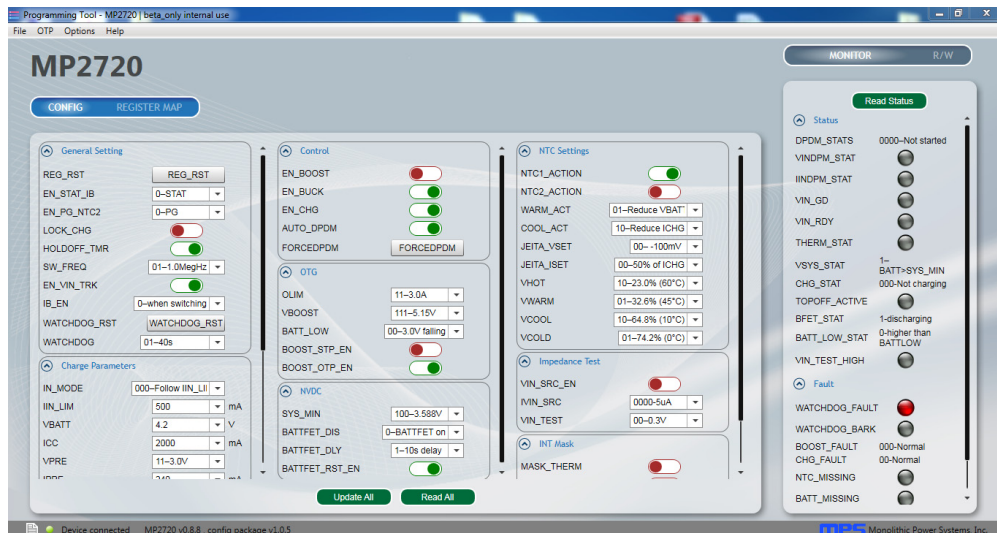

Figure 3: MP2720 Evaluation Software
8. Launch the MP2720 evaluation software. Figure 3 shows the GUI software's main window.
1. Ensure that all the connections are successful, including the connection between the USB to I²C communication interface and the EV2720-RH-00A. Successful connections are indicated in green on the lower-left side of the window (see Figure 3 on page 3). Once all of the connections are successfully made, the program is ready to be used.